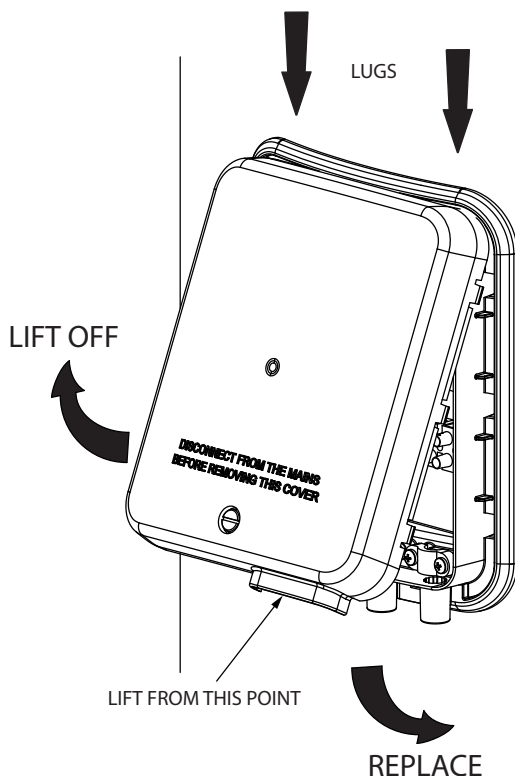

Figure 12: Immersion heater cover removal and replacement
- ▶ The immersion heaters are accessed by removing the Control Cover (see Fig 12).
- ▶ Lift from the bottom of the cover at the point indicated on Fig 12 until cover comes away freely.
- ▶ Replace the Control Cover(s) before operating. To do this tilt the cover and align the top two lugs with the holes in the housing as indicated on Fig 12. Hinge the cover downwards and firmly press the cover until it "snaps" back into place. Secure with screwdriver. DO NOT OVER TIGHTEN
- ▶ Unscrew the large screw on the Lift from the bottom of the cover at the point indicated on Fig 12 until cover comes away freely.
- ▶ Replace the Control Cover(s) before operating. To do this tilt the cover and align the top two lugs with the holes in the housing as indicated on Fig 12. Hinge the cover downwards and firmly press the cover until it "snaps" back into place. Secure by tightening the screw on the cover using a flat ended screwdriver. DO NOT OVER TIGHTEN